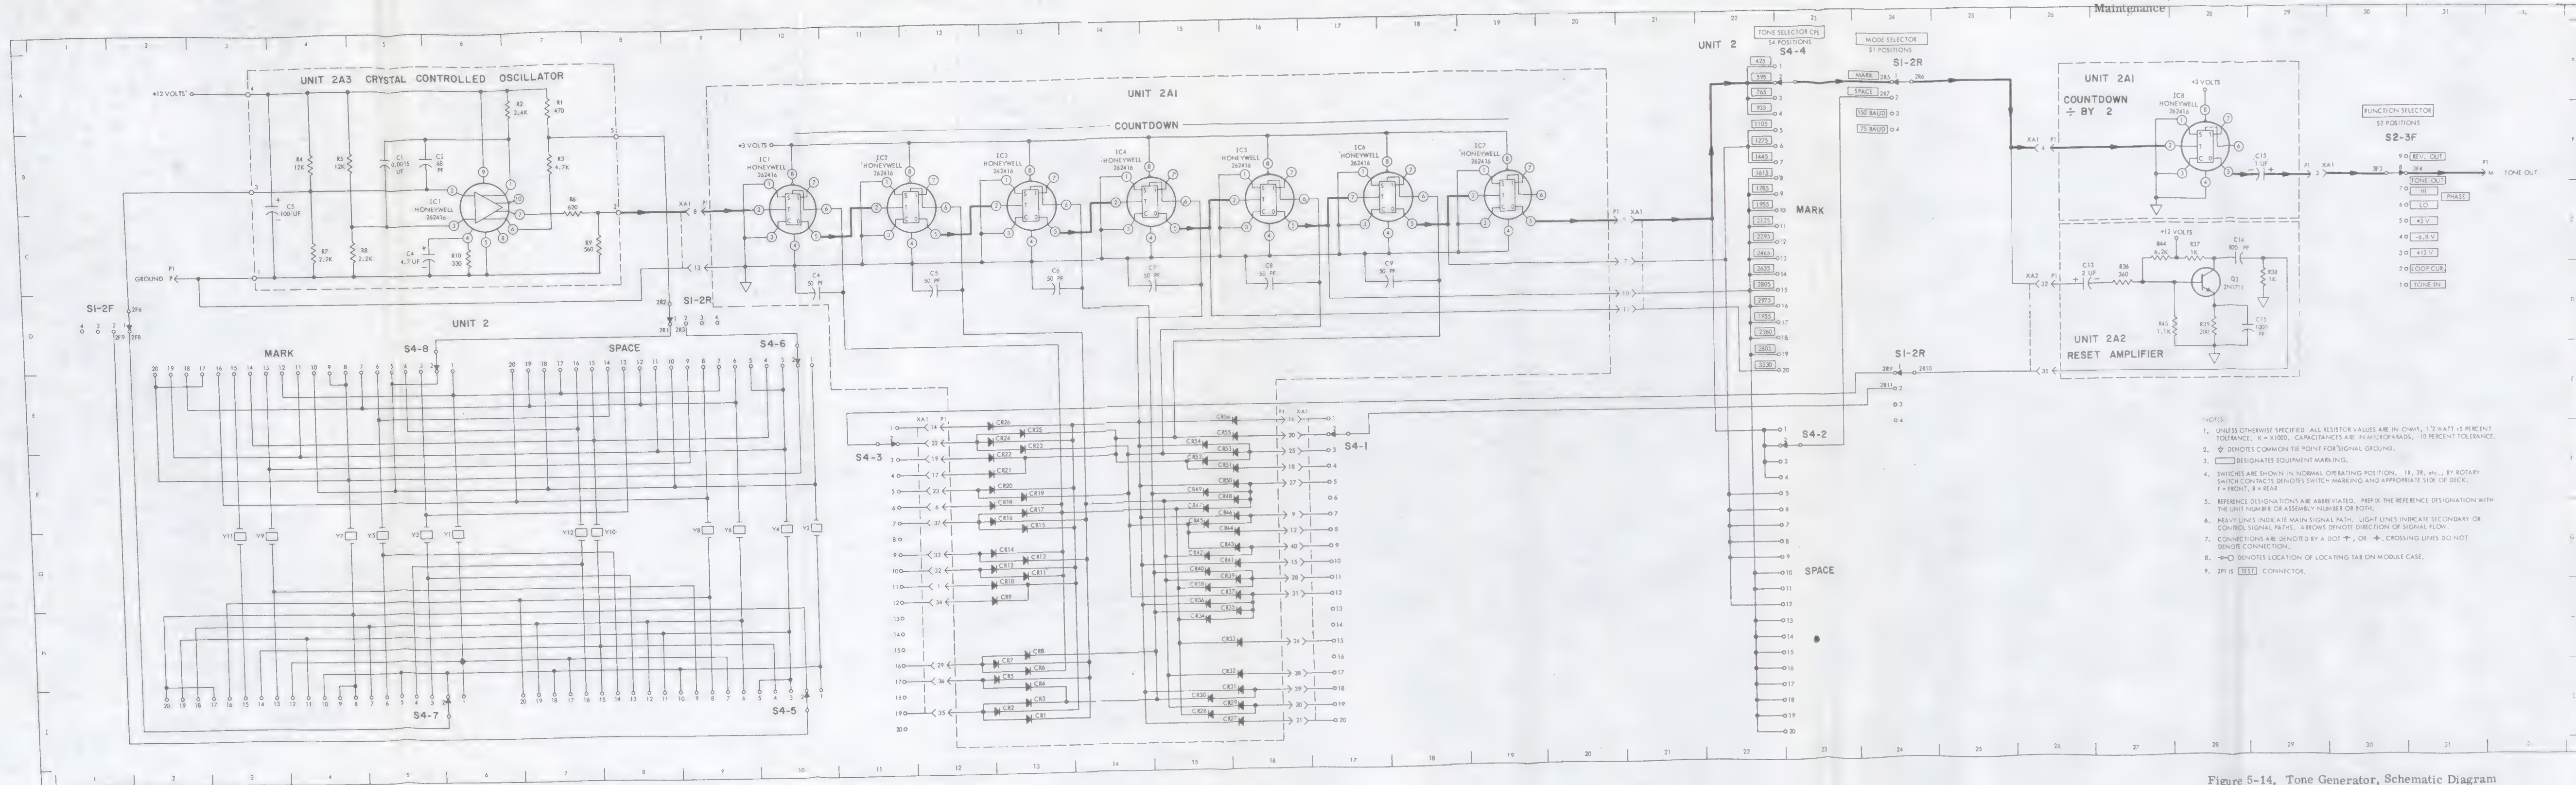

Figure 5-14. Tone Generator, Schematic Diagram
2-3-3D Figure 5-14, Tone Generator, Schematic Diagram
- 4-1-5D Figure 5-14, Control Attenuator C-4702/UCC-1(V),